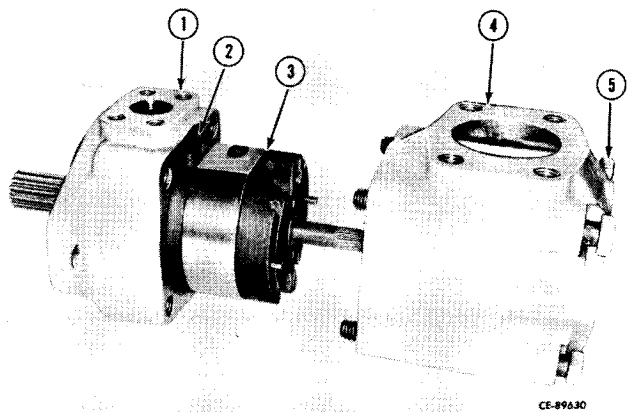

Figure 11-20
Install a new back-up ring and "O"-ring (2, Fig. 11-20) after lubricating them with petroleum jelly. Install the cartridge (3) in the body (1) (using a twisting motion). Be certain the pins engage in the body.